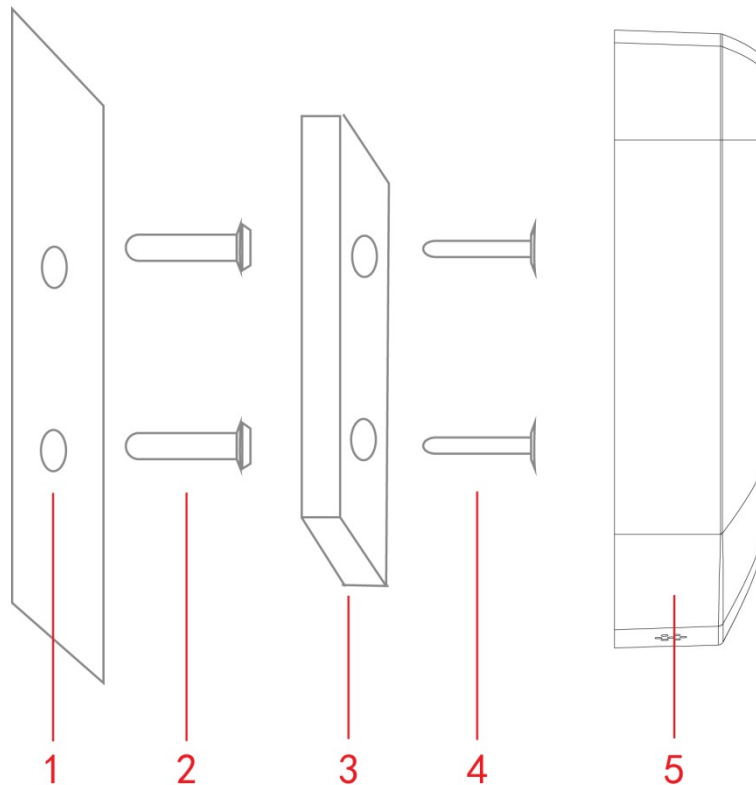

Figure 2-1
Refer to Figure 2-1 to install the bracket.
1. Dig holes on the vehicle according to the installation map (1 in Figure 2-1).
3. Use screws (4 in Figure 2-1) to secure the bracket (3 in Figure 2-1) on the vehicle.
4. Turn the intercom (5 in Figure 2-1) to fix it on the bracket (3 in Figure 2-1).